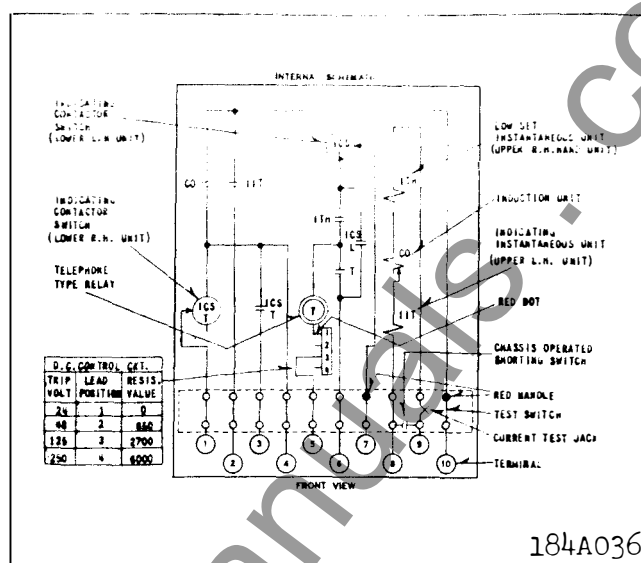

Fig. 17. Internal Schematic of the Type COM Relay with Auxiliary Time-Delay Unit and ITH Unit, in FT21 Case. (For S=289B456A – Series of COM-5 Relays).
The relay is shipped with the resistor tapped for 125 volt d-c service. See Fig. 17 or 18 for the proper positions for other d-c ratings. When viewed from the rear of the relay the red dot on terminal 1 of the resistor is on the extreme left.
7. Auxiliary Time-Delay Unit (T) - For relays wired per Fig. 17 or 18, apply 100 volts d-c to terminals 5 and 7. Manually close the contacts of the ITH or IT unit in the top right-hand corner of the relay. The T unit should operate.